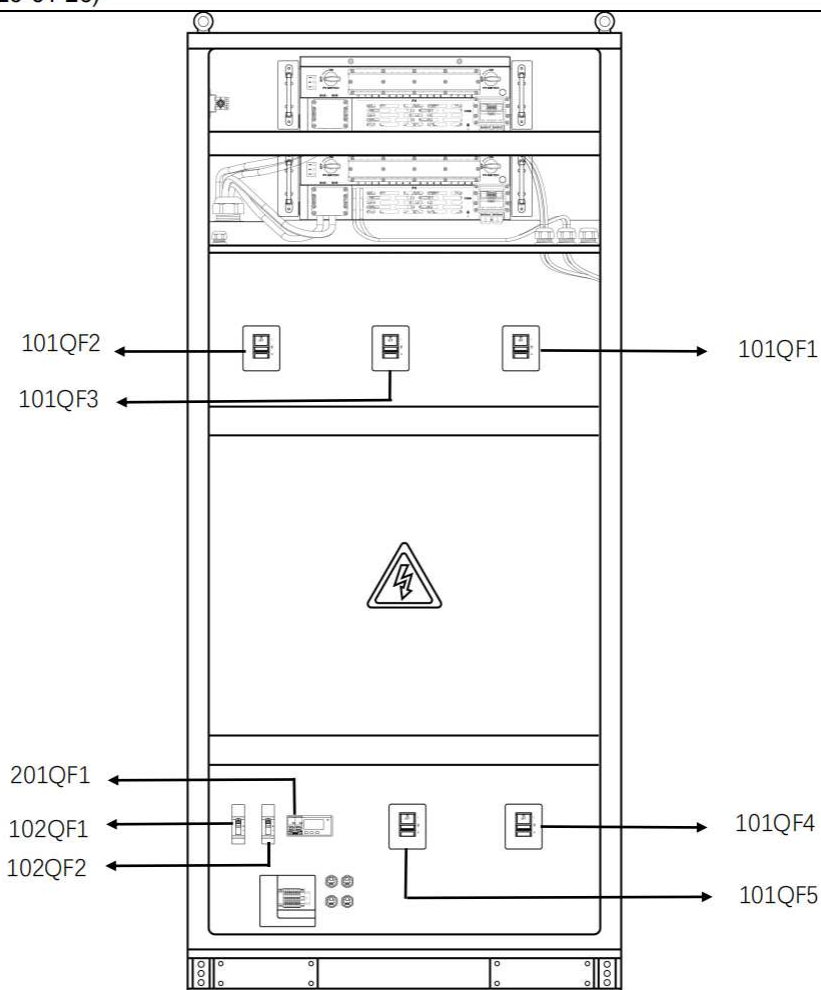

Figure.3
2. Perform an visual inspection to ensure all breakers from **101QF1** to **101QF5** and from **102QF1** to **102QF2** are disconnected. See the Figure.3.
3. Have the external power grid and diesel generator energized, and measure whether the external voltage is normal by a multimeter. See the Figure.3.
4. Turn on circuit breakers **101QF1** and **101QF2**, and visually inspect whether the indicator lights of the power grid, diesel generator, and STS transfer switch are properly illuminated. See the Figure.3.
5. Turn on circuit breaker **201QF1** and visually inspect whether the 24V load indicator light is properly illuminated. See the Figure.3.
6. Turn on circuit breaker **101QF4** and visually inspect whether the load indicator light is properly illuminated. See the Figure.3.
7. Turn on circuit breakers **101QF5**, **102QF1** and **102QF2**. See the Figure.3.
2. Turn off circuit breakers **101QF5**, **102QF1** and **102QF2**. See the Figure.3.